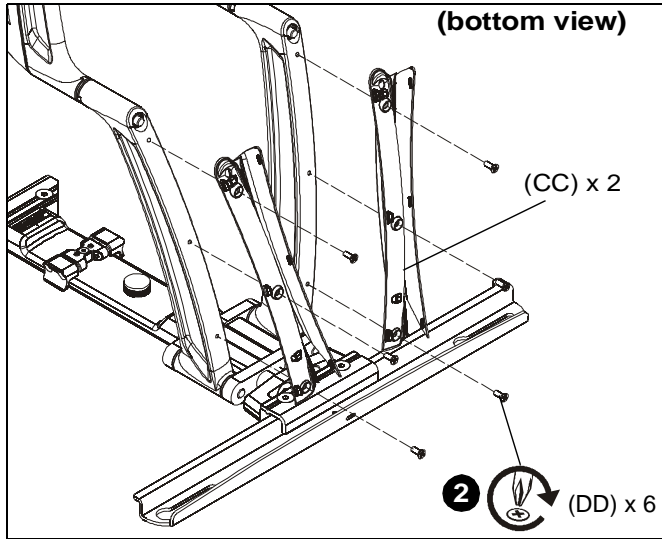

Figure 14
5. Use six #10-24 x 1/2" Phillips flathead screws (DD) to attach cable management covers (CC) to the lower portion of the swing arm. (See Figure 14)